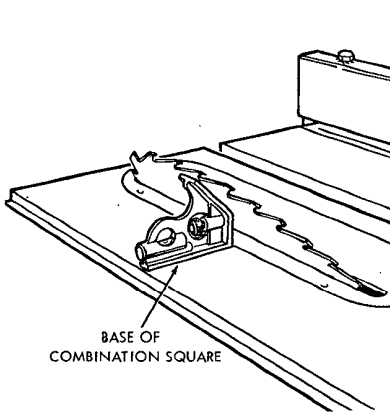

Figure 18
- (1) Loosen the clamp knob and rotate the tilt crank clockwise until it will turn no farther. Tighten the clamp knob. At this point, the acute angle made between the saw blade and table top should be 45 degrees. (See figure 18.) The base of a combination square (or protractor) can be used effectively for this measurement.